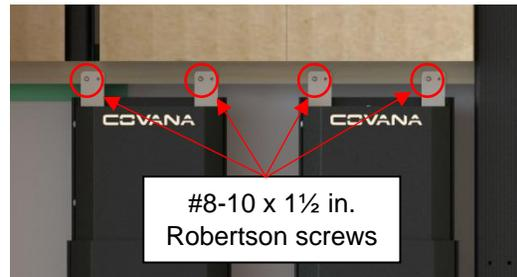

Figure 36
- 11) Unscrew the top #8-10 x 1½ in. Robertson screws holding the posts to the crate as shown in Figure 36.